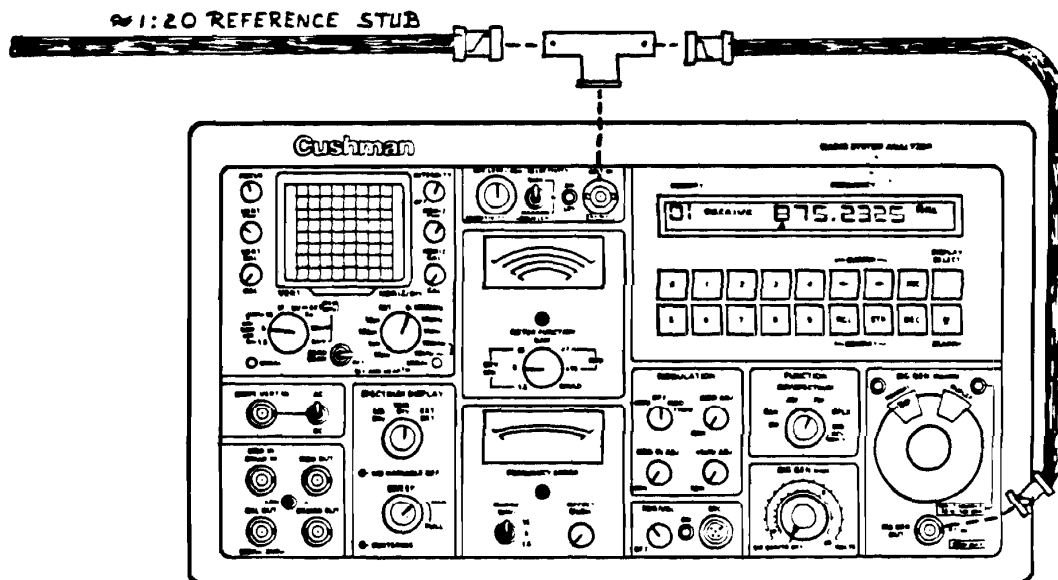

Figure 4-12. Cable Fault Calibration Set-Up
- a. Connect an RG223 coaxial cable from the SIG GEN OUT/RF IN connector to one side of a BNC "Tee" connector at the ANT IN connector. See Figure 4-12.